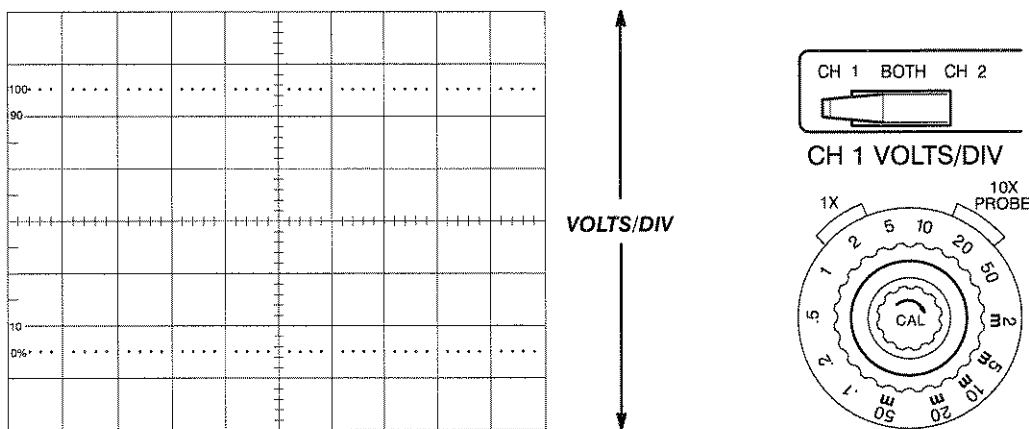

Figure 3-3: Vertical Display Controls
- ☐ **Step 3:** Set the vertical scale (or attenuation factor) for the display by turning the volts/division knob of the selected channel (Figure 3-3). Choose a setting that is several times higher than the amplitude of the signal. This will keep the display from going off screen.